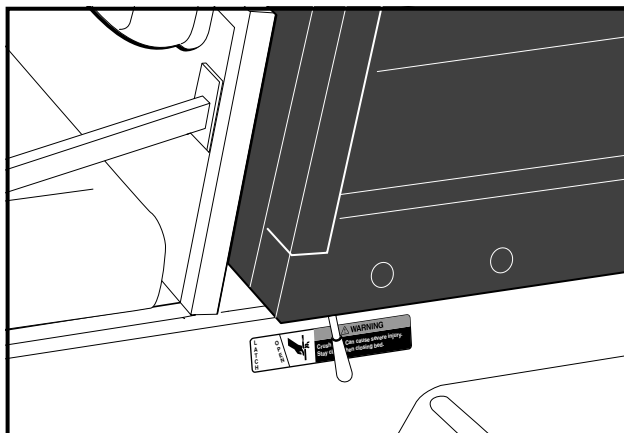
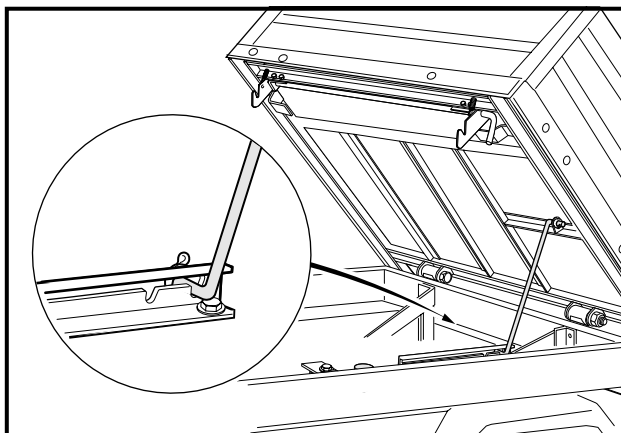

Figure 10 Bed Latch
Figure 11 Prop Rod
The vehicle is equipped with a bed latch on the driver side of the vehicle (**Figure 10, Page 18**) and an automatically engaging prop rod (**Figure 11, Page 18**). To lift the bed, pull the latch handle toward the rear of the vehicle and lift the bed. To close the bed, disengage the prop rod and gently lower the bed until the bed latch engages. **DO NOT** drop the bed. See following **WARNING** and **NOTE**.
**NOTE:** The vehicle is equipped with an automatically engaging prop rod (**Figure 11, Page 18**), unless equipped with the hydraulic or electric bed lift accessory.
The vehicle is equipped with an automatically engaging prop rod and prop rod track on the driver side of the rear body (**Figure 11, Page 18**). When pulling the bed latch handle and lifting the bed, the prop rod will come to rest in one of the notches in the prop rod track. See following **DANGER** and **WARNING**.